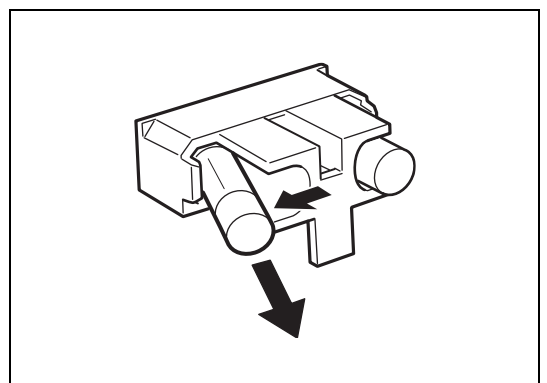

Figure 5.8
- 3 Position the fuse box so that its back is facing you and remove the fuses. (Refer to Figure 5.8)**